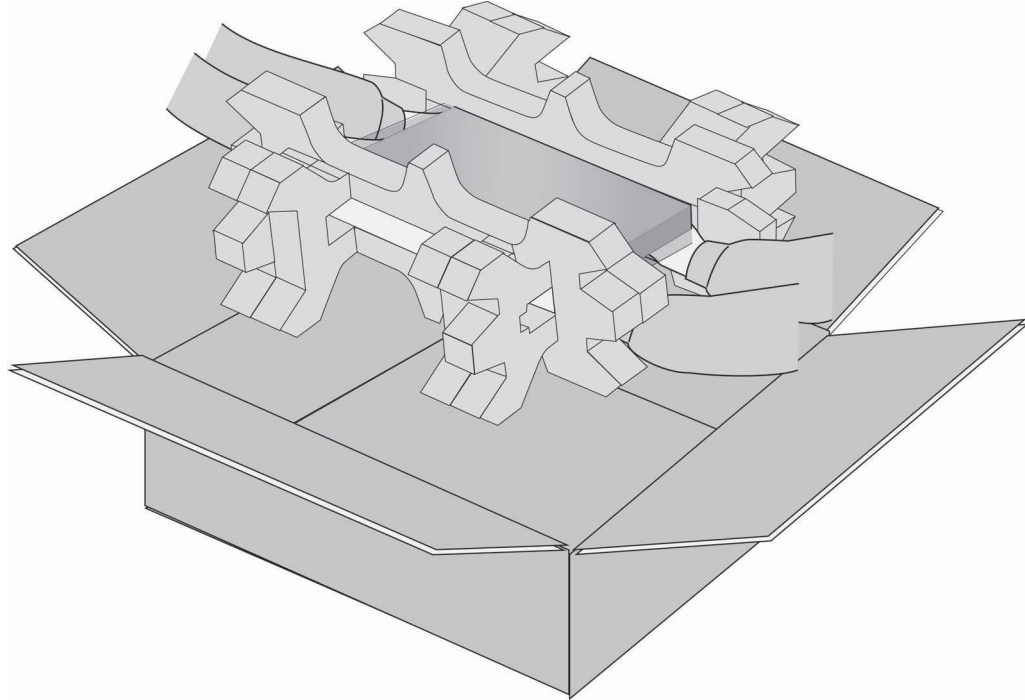

Figure 53. Lifting the Switch from the Shipping Box
3. Lift the switch from the shipping box and place it on a level, secure table. Refer to Figure 53 on page 115.